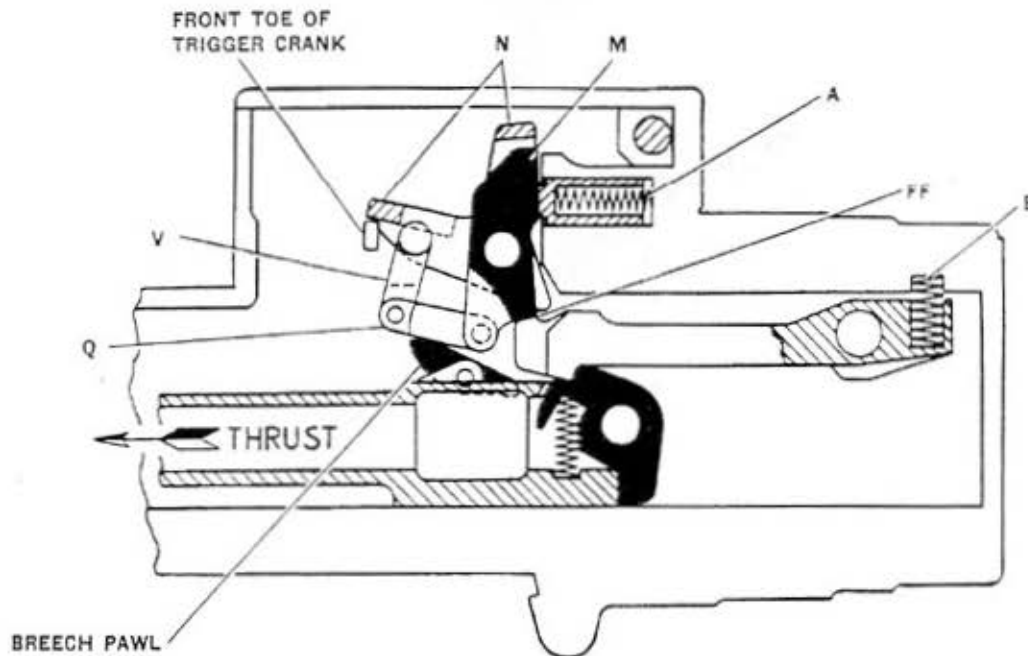

Figure 28—Recoiling mass about to be released to fire the gun, the parallelogram being moved by trigger crank
At the front end of the trigger crank (Yellow) is another toe that lies under a lip at point (P) of the parallelogram top lever (N). Movement of the trigger crank (Yellow) pushes up the front end of parallelogram top lever (N) causing it to rotate about its axis pin and forcing the parallelogram to slew into the position shown in Figure 28. Parallelogram bottom left and right levers (Q), Figure 28, are rotated about their axis on the parallelogram rear lever (M). The front end lugs (Q) of parallelogram bottom levers that
were bearing against the breech pawls, Figure 28, are now disengaged. The attempt of the trigger hook to disengage itself from the recoil sear, is now about to be realized because the levers (Q) cannot restrain it, inasmuch as they are freed of the breech pawls and barrel spring. Levers (Q) can now go to the right, thus forcing lever (M) counterclockwise. Springs also assist in this action as follows:
Parallelogram Rear Lever Plunger Spring (A), Figure 28
tom levers (Q) forward. This movement rotates the parallelogram rear lever (M) clockwise causing a face on it to press on the toe (FF) of the trigger hook forcing it down into engagement with the recoiling sear. The breech block mass is thus intercepted and held in the cocked position. See Figure 28, "Recoiling mass in cocked position."